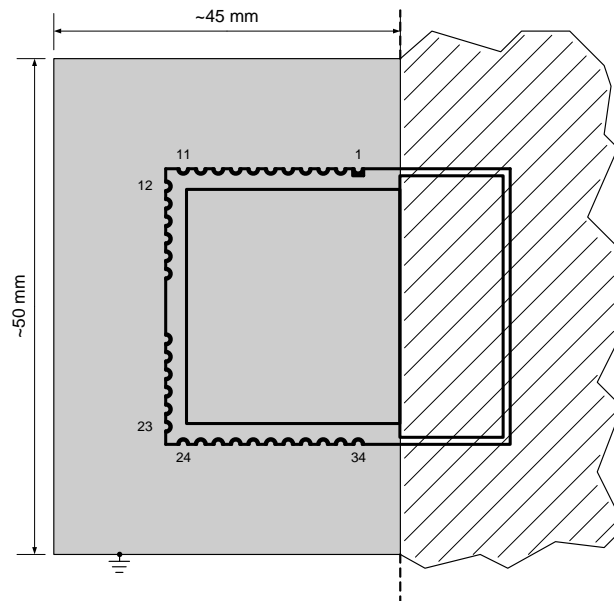

Figure 4-3: Recommended Environment
- As shown in Figure 4-3, the solid grey area must be a ground-plane on the Bottom Layer (or Layer 2 in a multi-layer structure) of the carrier board. Antenna matching and all other measurements have been done with these dimensions.
- The hatched area shown in Figure 4-3 has to be free of material (e.g. PCB, metal, housing). If possible, the distance from the antenna area to any material should be at least  $\lambda/2$  see 1.
| Figure 4-3: Recommended Environment .....                               | 15 |